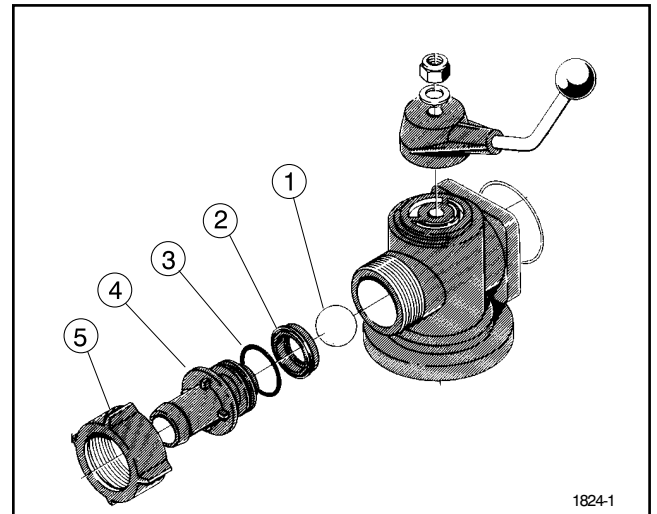

FIG. 9
1. Unscrew nut and hosebarb (see FIG. 9), from ON/OFF Valve. Remove ball seat and ball from valve, note orientation of seat and install new seat and ball.